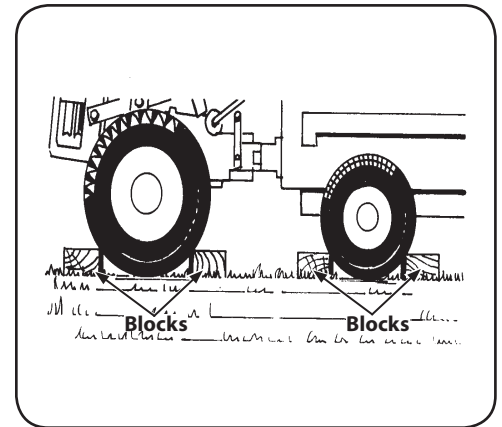

Figure 4-2
**NOTE:** If using a PTO stationary attachment, move the Wheel Speed Lever into FREEWHEEL and block the wheels to prevent the equipment from moving. See Figure 4-2.